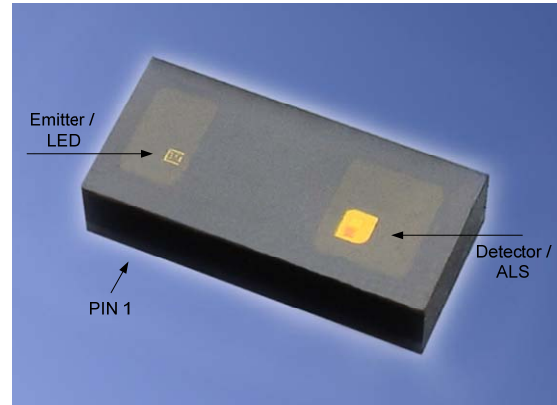
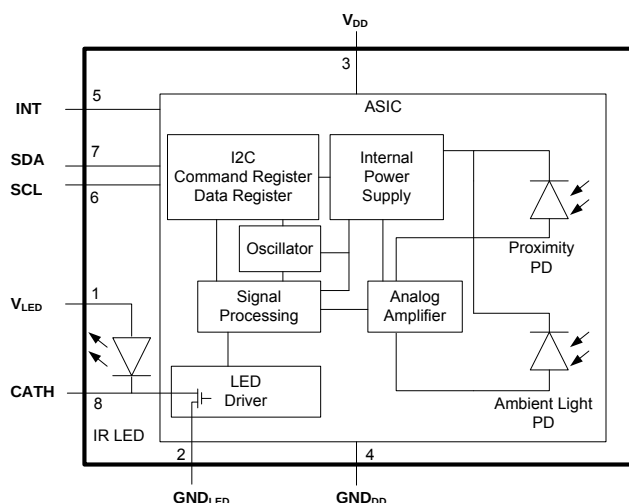

Fig. 1: Photography and orientation of the SFH 7773.
Fig. 2: SFH 7773 functional block diagram.
The SFH 7773 (see Fig. 1) consists of an 850 nm infrared (IR) LED and an ultra-low power ASIC which performs the signal processing and provides the I2C-bus interface as well as an interrupt alert function. Additionally the ASIC contains the two photodiodes for proximity resp. ambient light sensing. The functional block diagram can be found in Fig. 2. The pinning of the devices is stated in Tab. 1. The key features of the SFH 7773 include: